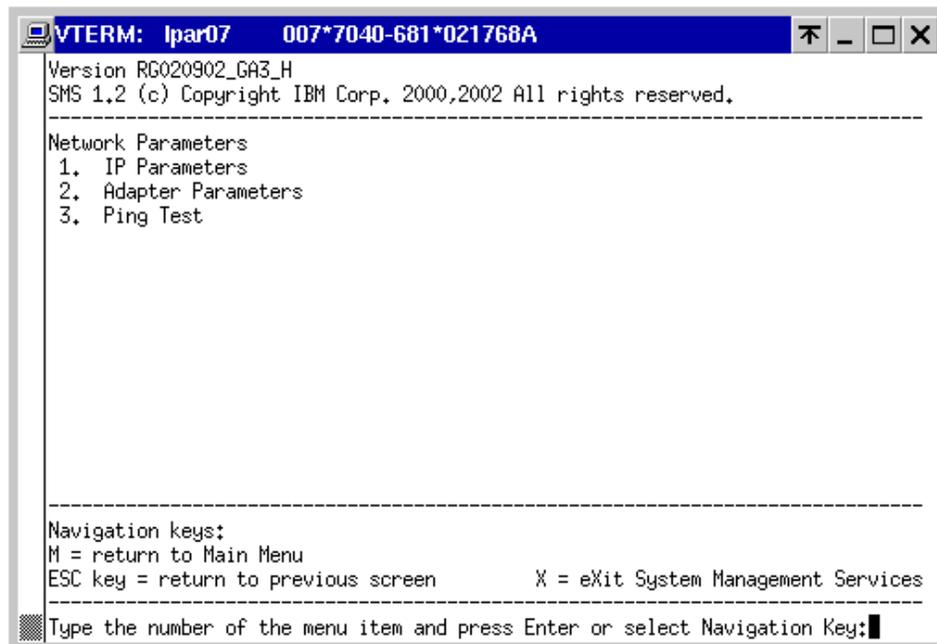

Figure 7-12 System Management Services: Network Parameters screen
10. The Network Parameters screen opens, as shown in Figure 7-12.
12. Select **2. Adapter Parameters** as shown in Figure 7-12.
Depending on the network media type between the partition and the NIM master server, specify the appropriate parameters for this adapter. Then, press the Esc key to go back to the Network Parameter screen, as shown in Figure 7-12 on page 226.